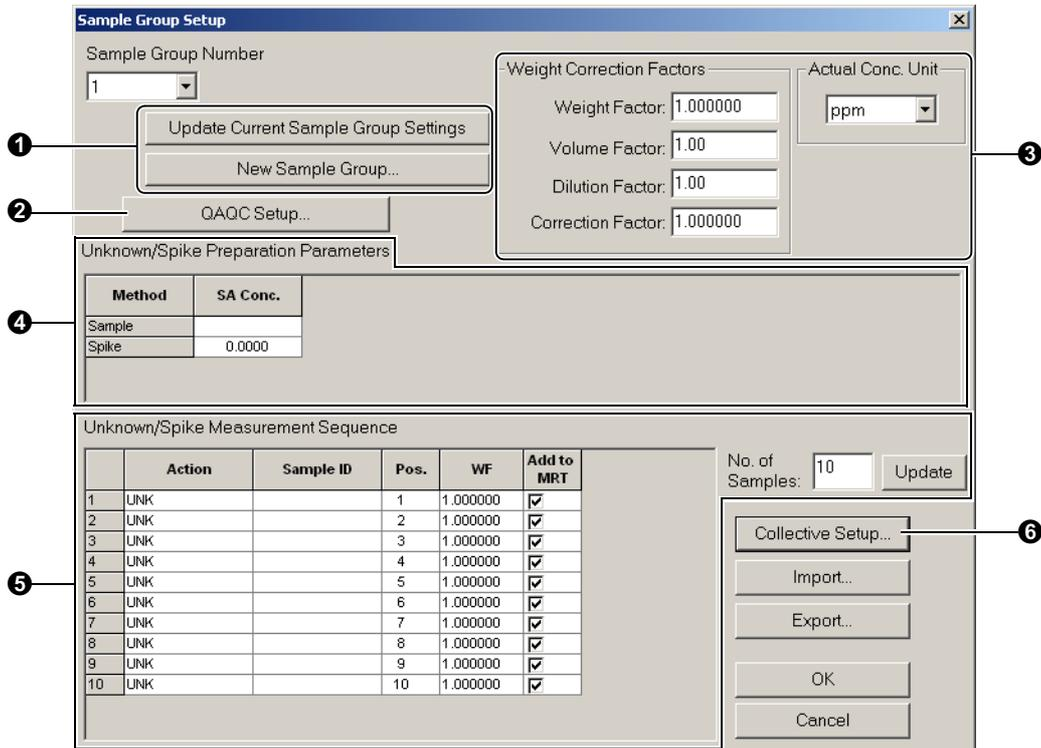

Fig. 3.14 [Sample Group Setup] Page
- ⑥ If you click on the [Collective Setup] button on the [Sample Group Setup] page of Fig. 3.14, the [Sample ID Collective Setup] dialog box will be displayed.